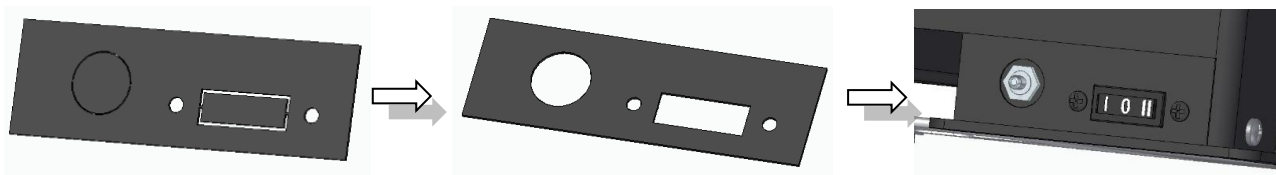

Figure 50– Micro-switch attachment and On-Off button
c. Finally, you must put the micro-switch and the On-Off button in place, as shown in Figure 50.
d. After placing the components in the equipment, Figure 50, you must adjust the switch that is under the door, so that the door after closing the switch activates the micro-switch, see Figure 51.